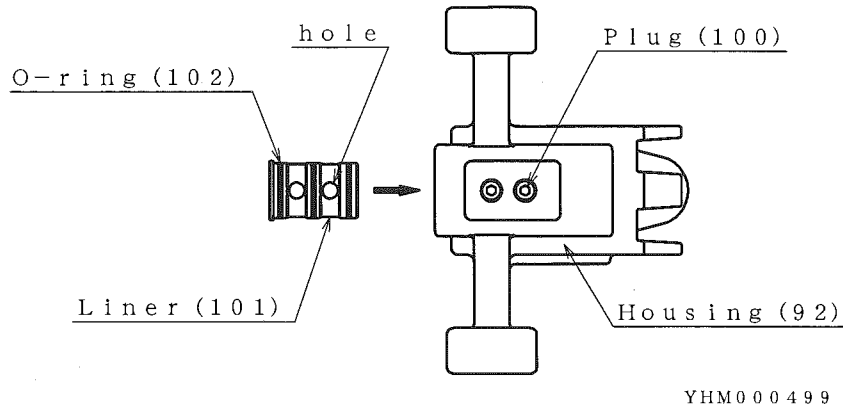

fig. 11
Install Liner to Housing (92). The hole of Liner and plug (100) which is installed to Housing must be straight (See fig. 11).